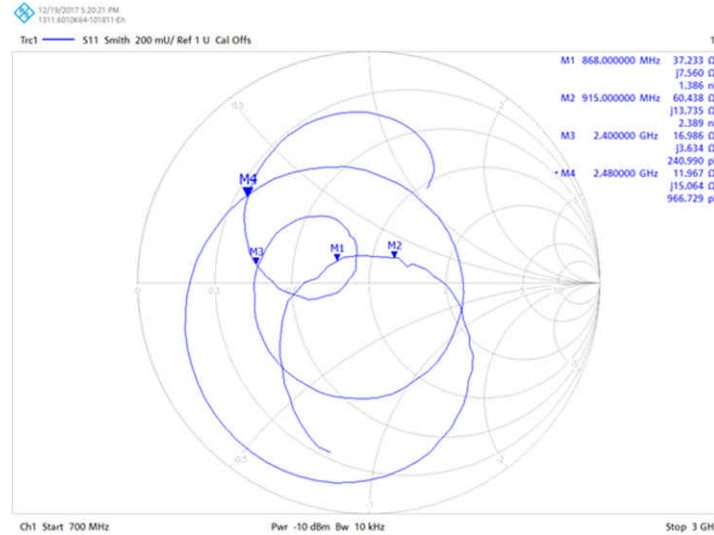
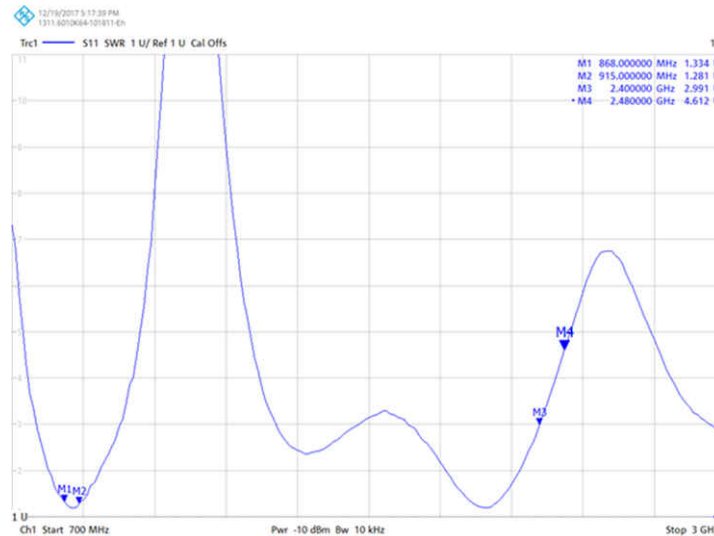

Figure 5-5. Smith Chart With Final Match Values of L_{HIGH} : 3.3 nH and C_{LOW} : 5.6 pF
Figure 5-6. VSWR Chart With Final Match Values of L_{HIGH} : 3.3 nH and C_{LOW} : 5.6 pF
- 2.44 GHz: $16 + j8$, VSWR: 3.18:1 Reasonable match at the high-band but would prefer VSWR < 2.00:1; see Figure 5-5 and Figure 5-6.